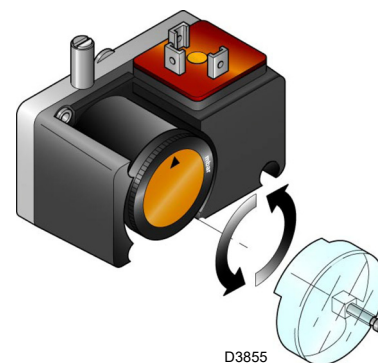

Fig. 35
- Adjust the pressure switch for the valve leak detection control device (PVP Kit)(Fig. 35 at page 35), if present, according to the instructions supplied with the Kit itself.
Adjust the pressure switch for the valve leak detection control device (PVP Kit)(Fig. 35), if present, according to the instructions supplied with the Kit itself.